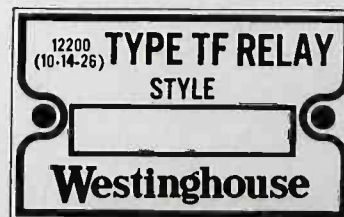

Fig. 4—Relay Name Plate
2. Give the relay name plate reading. See Fig. 4.